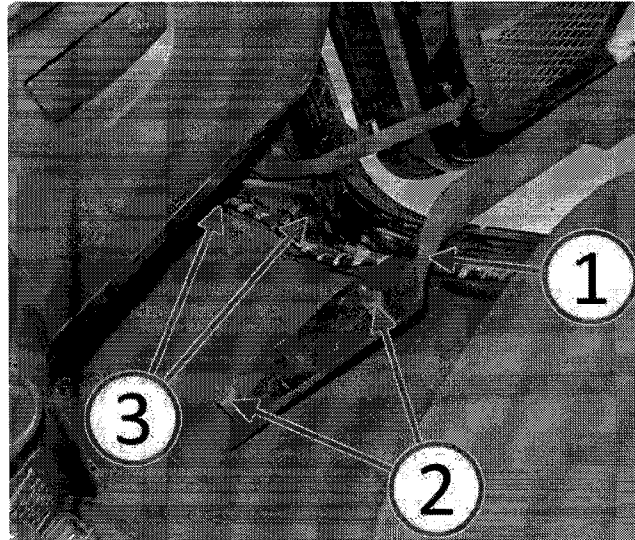

Fig. 2 Remove Cowl Trim Panel
3. Remove the cowl trim panel (1) (Fig. 2). Refer to the detailed service procedures available in DealerCONNECT> TechCONNECT under: Service Info> 23 - Body> Interior> PANEL, Cowl Trim> Removal.
4. Is the cowl trim panel (1) reusable and are the fir tree fasteners (2) present and in reusable condition (Fig. 2)?